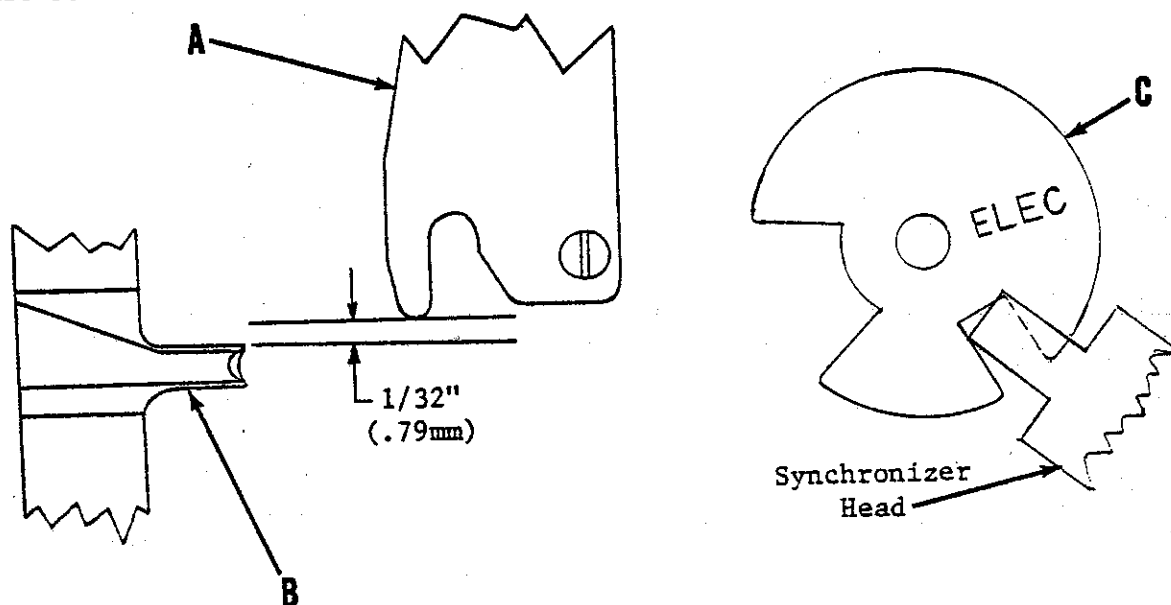

Fig. 38
With power off, turn the handwheel in operating direction until tip of finger of the hook thread deflector (A, Fig. 38) is $\frac{1}{32}$ inch (.79 mm) to the rear of the rear edge of positioning finger (B), with needle on upstroke. Rotate the trim disc (C) until the trailing edge of its smaller opening coincides with the left corner of the synchronizer head (Fig. 38). Since the "needle-up" and "trim" discs are in constant contact, recheck NEEDLE-UP POSITION.